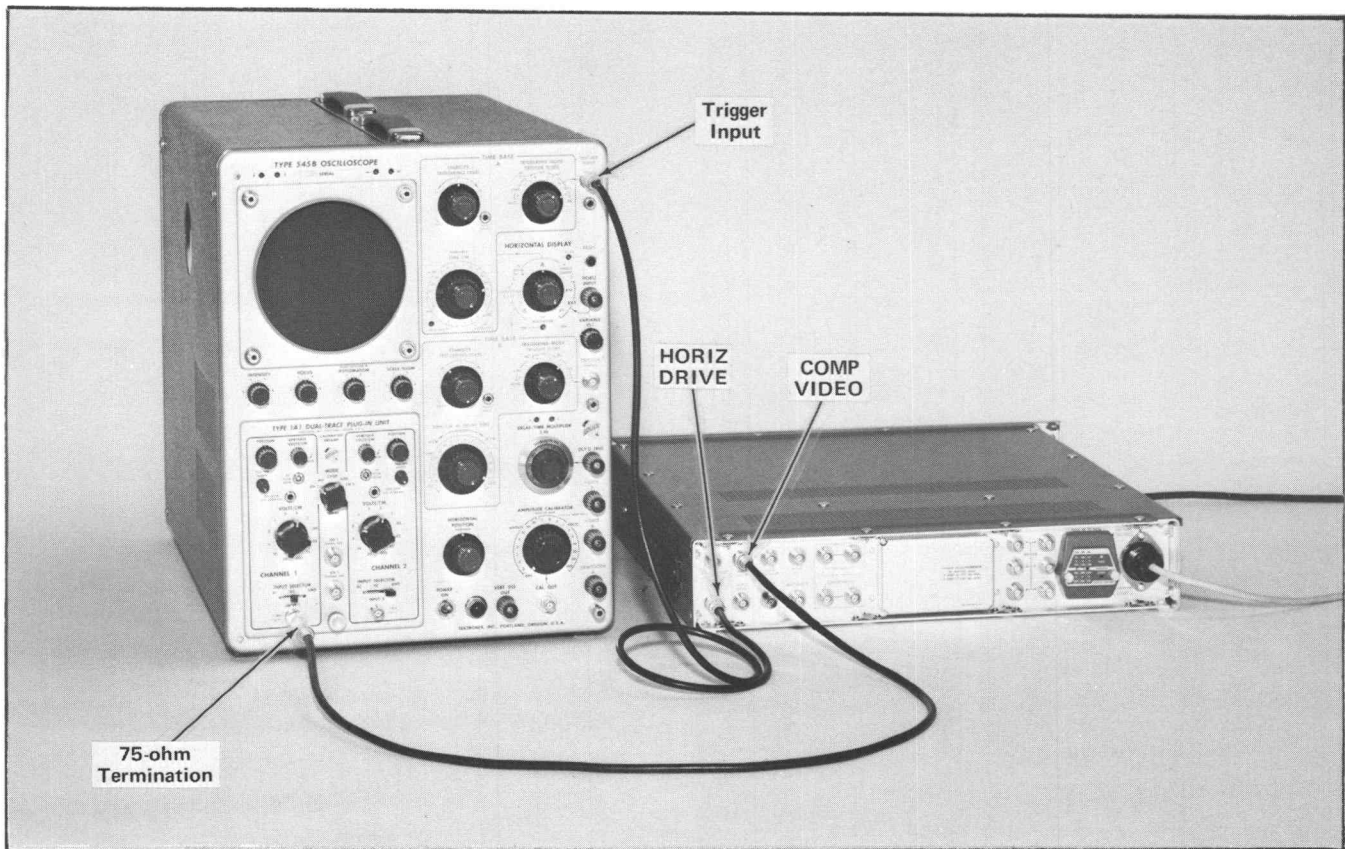

Fig. 2-11. Initial test equipment setup for First-Time Operation, Procedure 2.
1. Connect the COMP VIDEO output connector on the Type R140 to one end of a 75-ohm coaxial cable. Connect a 75-ohm termination to the other end of the cable and then connect the termination to Input 1 connector on the Type 1A1 Plug-In Unit. Connect another 75-ohm cable from HORIZ DRIVE connector on the Type R140 to the Time Base A Trigger Input connector on the Type 545B. See Fig. 2-11.